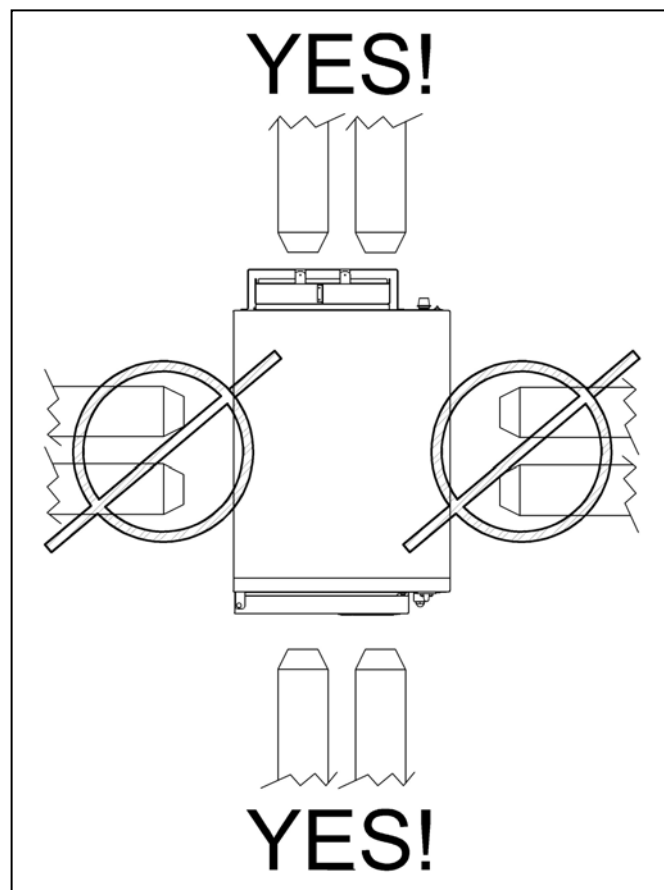

Figure 1-1
- e. The appliance is now ready to be moved to its final location. Lift the appliance off the blocks, and move it to its final location. See Figure 1-1. Discard the foam packing blocks.